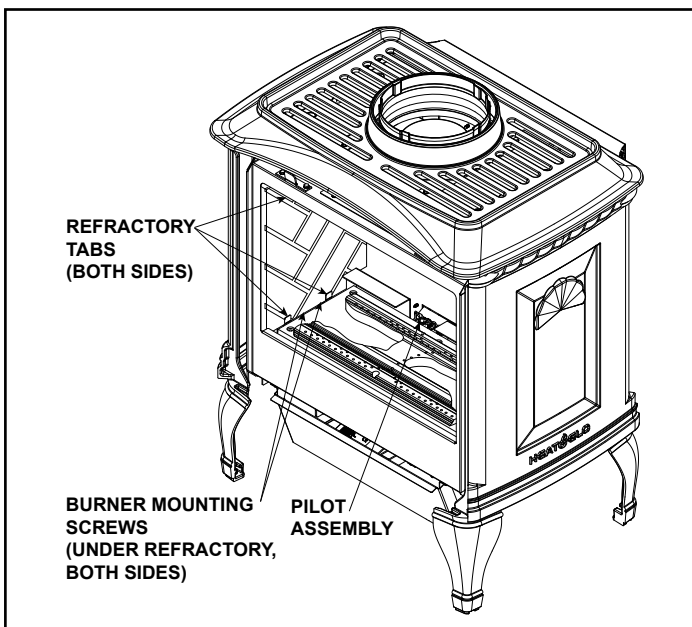

Figure 13. Remove Burner
11. Remove the logs and side refractory if installed. To remove side refractory, bend tab at top front corner of refractory. See Figure 13.
13. The pilot needs to be lifted slightly to accommodate the burner removal. Remove the two screws that attach the pilot to the burner. Lift the pilot slightly until it clears the pilot mounting tabs. See Figure 13.
14. Remove two burner mounting screws from each side of the burner. Lift burner up and out of appliance. See Figure 13.